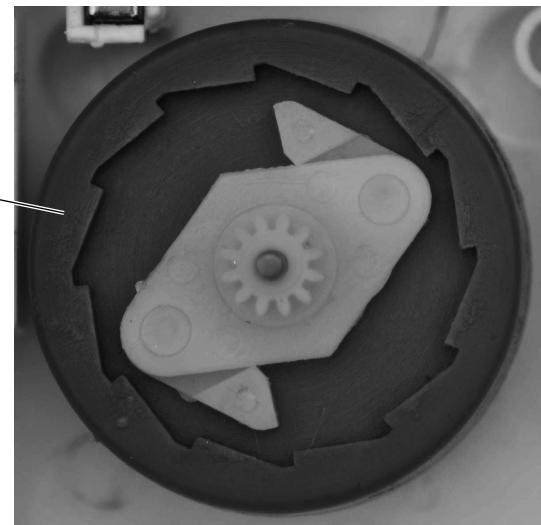

Fig. 5
- (b) Fig. 5 shows part of the torch mechanism.
- (i) Name the mechanism shown in Fig. 5.
- (ii) Describe the action of the mechanism shown in Fig. 5.
- (iii) Component D shown in Fig. 5 has a flywheel action.